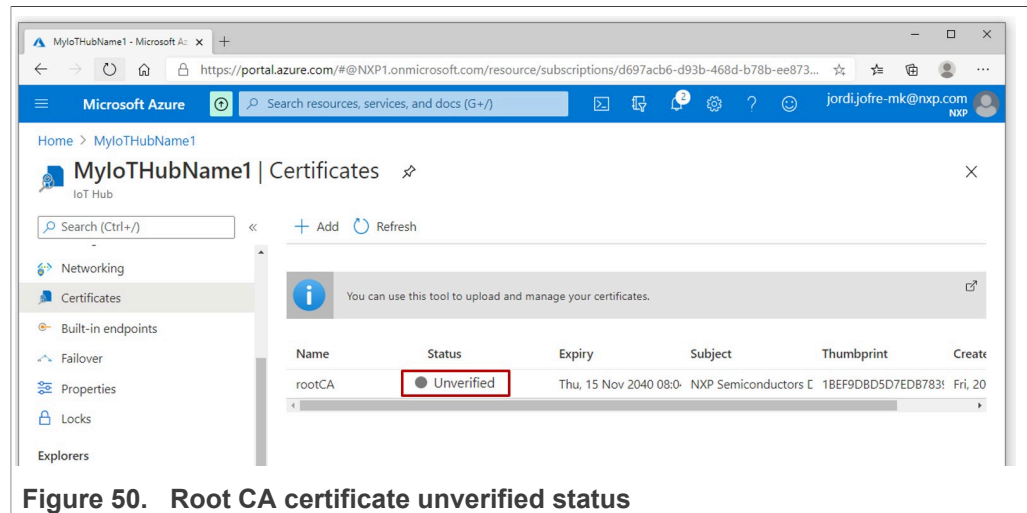

Figure 50. Root CA certificate unverified status
- The certificate we have just uploaded will appear in the list as **Unverified** as shown in Figure 50.